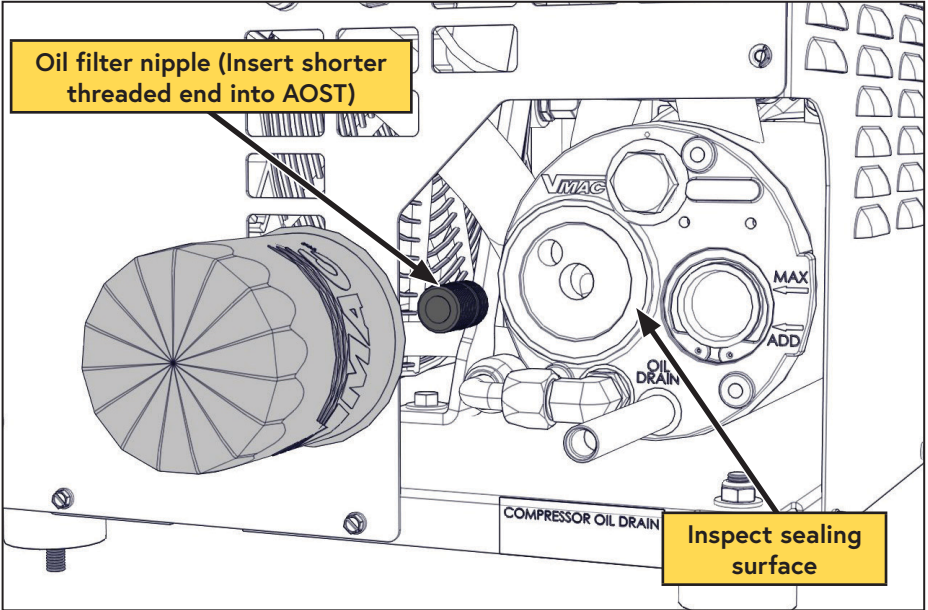

Figure 30 — Compressor oil filter
- *To reinstall the nipple, thoroughly clean the threads and apply Loctite 242 (blue) to the end with the short threads and replace it in the AOST (Figure 30).
- Clean the gasket sealing surface on the front of the AOST and inspect it for damage. The surface must be free of old gasket material and smooth to ensure a good seal (Figure 30).